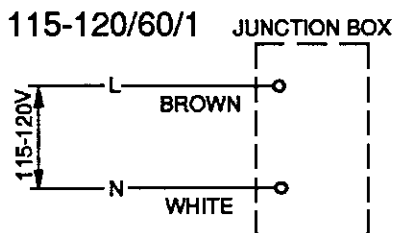

Fig. 10
* The white lead must be connected to the neutral conductor of the power source. Miswiring results in severe damage to the ice dispenser. See Fig. 10.